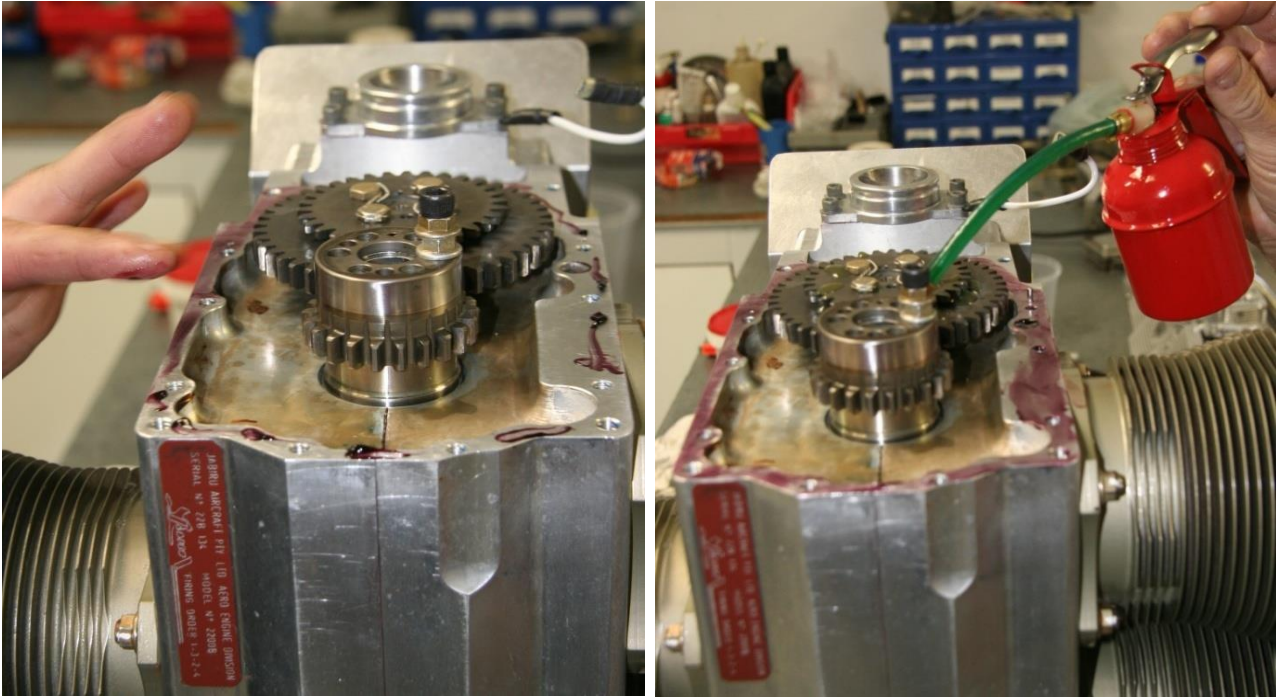

Figure 172 – Sealing Engine Mount Plate
- Apply Loctite 515 sealant to the rear of the crankcase and sump as shown in Figure 172. The cam drive gears should also be lubricated with oil now, before the gear cover is fitted.